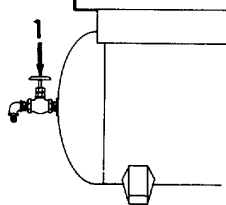

Figure 2-6. Air Shut-Off Valve Opening.
d. Refer to Figure 2-6. Open the air receiver tank air shut-off valve (1) and allow the air to enter the flexible hose.